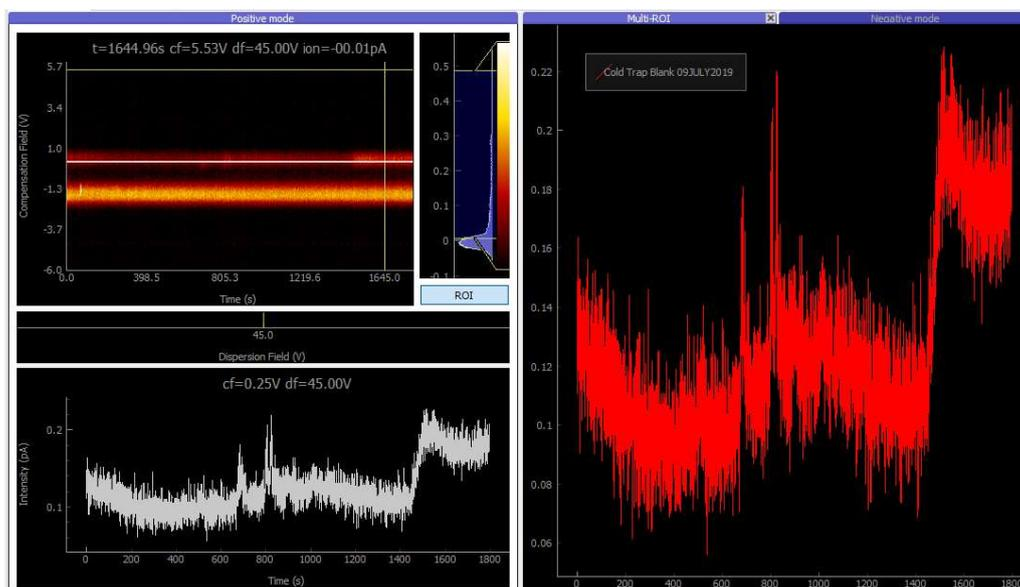

Figure 10. Generation of a chromatograph overlay. Notice scaling will be adjusted automatically. Series labels can be moved.
- 3.3.2 The negative mode side screen will be covered by the “Multi-ROI” plot, in where the CV sweep graph will be plotted and labelled with the name entered (Figure 10). Double-click on the “Multi-ROI” tab at the top to open a single window for the overlay.